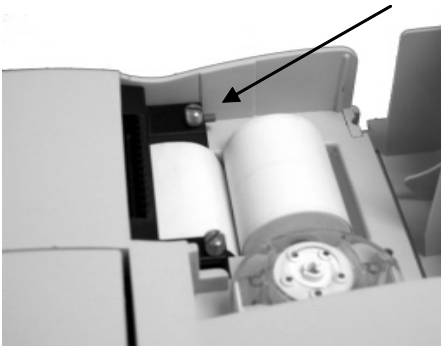

Fig. 2-12 Paper Advance Button
- To advance paper after the initial installation, press the red paper advance button located on the left side of the printer (Fig. 2-12).